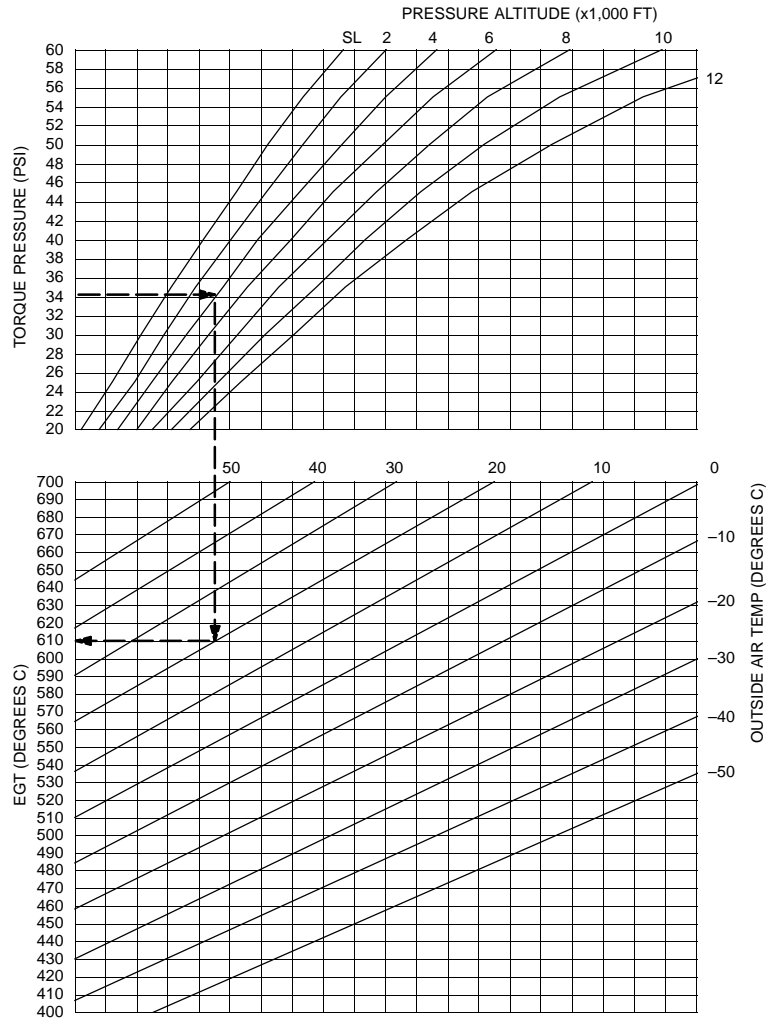

Figure 5-3. Power Assurance Chart
Power Assurance Chart (Figure 5-3)	5-6
6. Enter power assurance chart (Figure 5-3) with chart torque; move right to pressure altitude, then down to ambient temperature, then left to chart EGT.